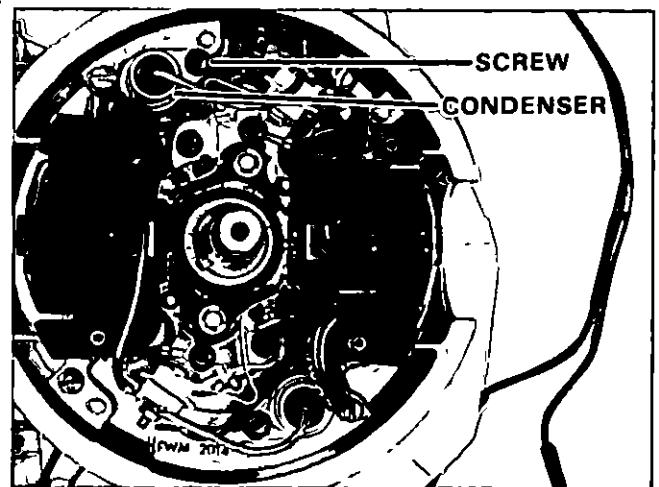

Figure 30. Removing Condenser.
- 3 Remove screw retaining condenser to stator plate as shown in Figure 30